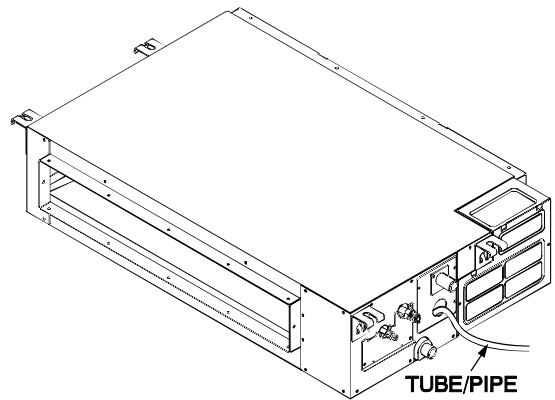

Fig. 50 —Tube Pipe Insert
2. Using a piece of tubing or pipe to fill the condensate lift pump reservoir with 70 oz. of water (see Fig. 50).